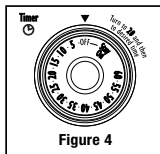

Figure 4
4. **Timer Control Knob with Bell Signal** – Set cooking time up to 60 minutes. Will automatically turn the oven OFF at the end of the cooking time. (See Figure 4)